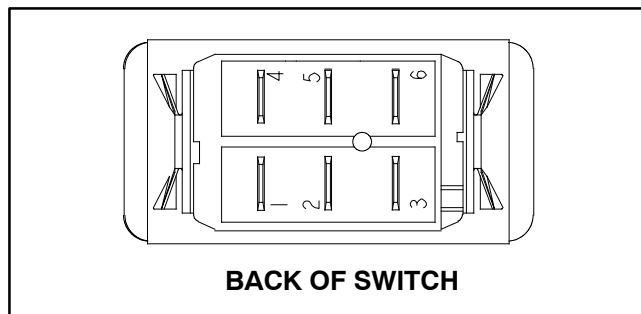

Figure 47
4. With the use of a multimeter (ohms setting), the switch functions may be tested to determine whether continuity exists between the various terminals for each switch position. The switch terminals are marked as shown in Figure 47. The circuitry of the switch is shown in the chart below. Verify continuity between switch terminals. Replace switch if testing identifies a faulty switch.